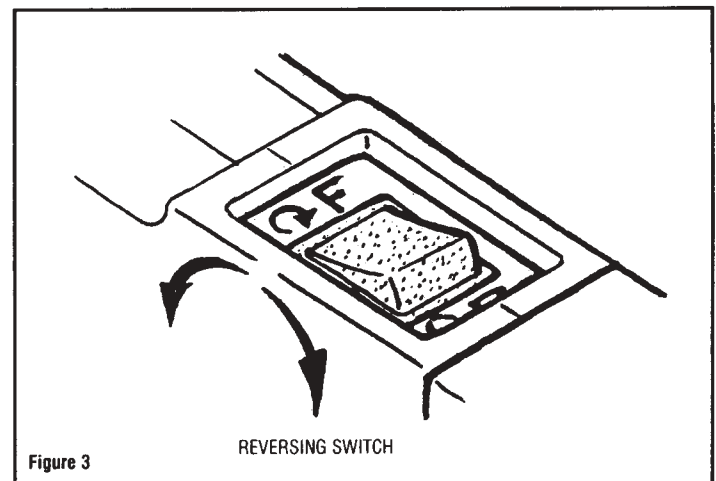

Figure 3
2. Reversing Switch - The rocker switch on the top side of the tool allows selection of the direction of bit rotation. Screws may be driven and withdrawn easily from the work material. Always check the direction of bit rotation before operating the tool. Set the switch to "F" (forward) for driving screws and "R" (reverse) for removing screws. See figure 3.